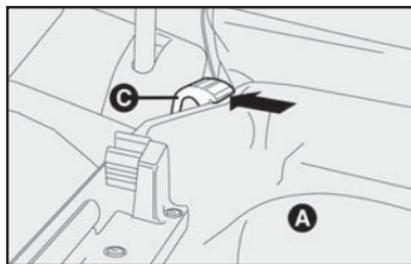

fig. 102
3) Travar as duas partes com as travas de suporte **C-fig. 102**.